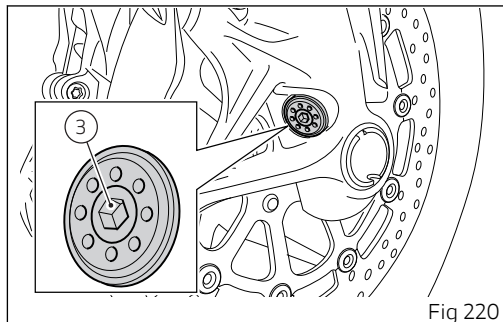

Fig 220
- 3) to adjust the preload of the inner springs (3, Fig 220);
To change preload of the spring inside each fork leg, turn the hex. adjuster(3, Fig 220) with a hex wrench, starting from the fully open (clockwise) position.